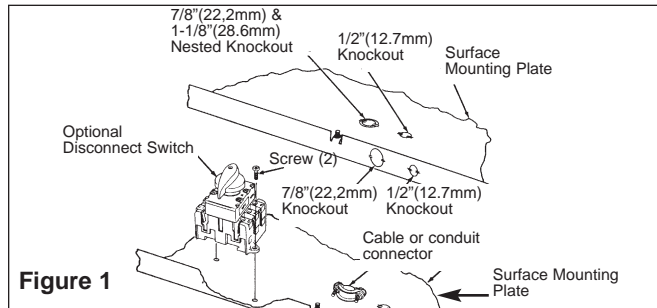

Figure 1
2. Remove the Surface Mounting Plate (Figure 1) from the carton containing the Surface Mounting Enclosure, Type SEA.
4. Install the optional disconnect switch (if required) as shown in Figure 1.